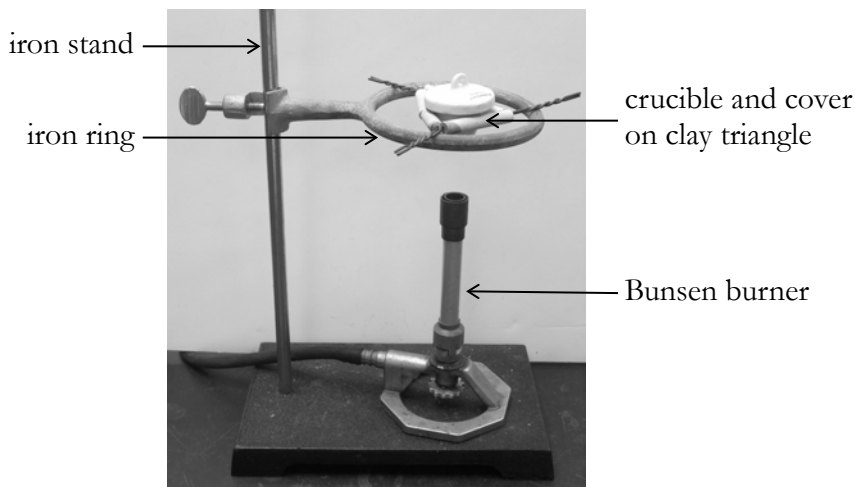

Figure 2. Experimental set-up for analysis of hydrates
1. Obtain a clean, dry crucible with cover. Prepare the experimental set-up as shown in Figure 2. Before lighting the burner when heating on a ring stand, adjust the ring so that it is ~ 3 cm above the top of the burner (approximately the width of your index and middle fingers held together). This ensures you use just the right size of flame.